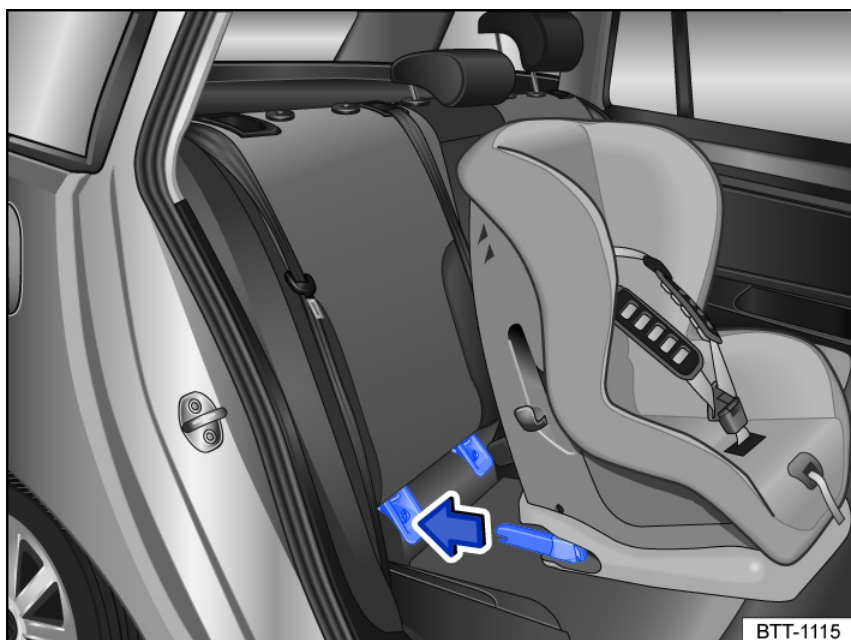

Fig. 41 General example: fitting a child restraint with attachment arms.
- Push the child restraint attachment arms in the direction of the arrow onto the anchors *fig. 41*. The child restraint must engage securely and audibly.